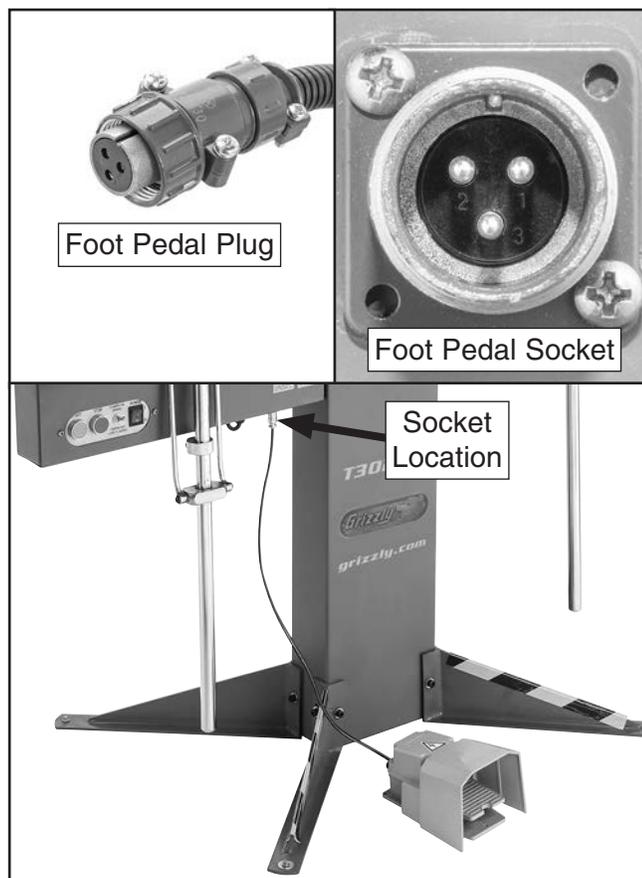

Figure 14. Foot pedal cord components.
1. Align numbered terminals, then plug foot pedal cord into socket in bottom of control panel (see **Figure 14**).